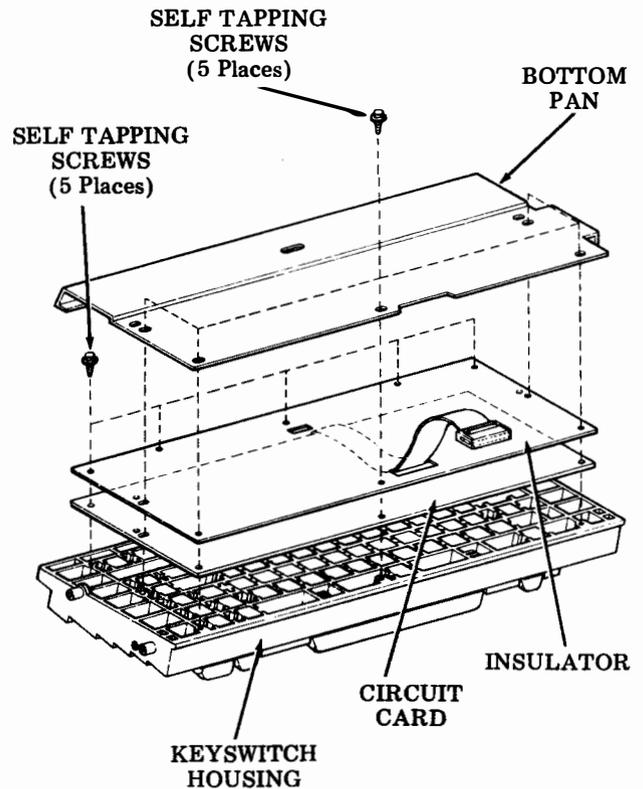

Fig. 43—Circuit Card Removal
- (b) Remove the five screws that secure the bottom pan to the keyswitch housing assembly (Fig. 43).
- (c) Remove the five screws that secure the insulator and circuit card to the keyswitch housing assembly (Fig. 43).